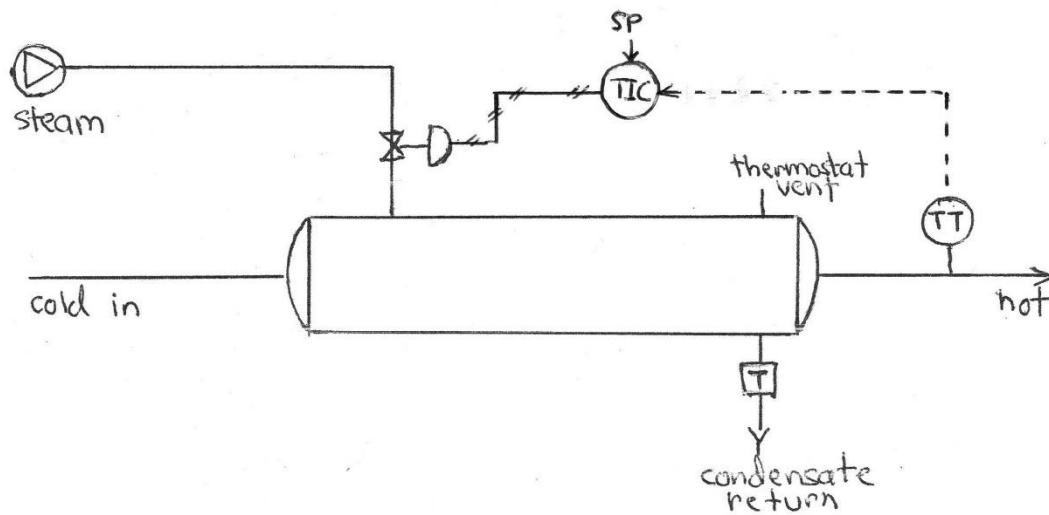

Figure 5 Primitive control of process fluid temperature
Figure 5 illustrates the primitive control scheme. TIC is talking to the valve and saying, "Valve, go to 63% open." If the valve is ATO (FC), then TIC must be reverse acting. If something makes the temperature rise, TIC needs to reduce its output to move the valve toward a less open position.